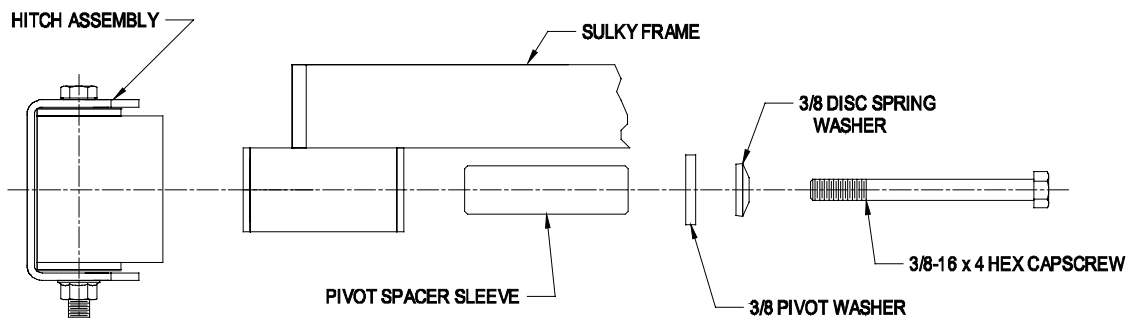

Figure 2
4. Install the front hitch assembly. Insert the pivot spacer sleeve into the front pivot housing of the sulky frame. Fasten the hitch assembly to the sulky frame with one 3/8-16 x 4" hex capscrew, one 3/8" pivot washer, and one 3/8" disc spring washer. Be sure the "cup" of the disc spring washer is against the pivot washer. Torque bolt to 30-35 ft/lbs. See Figure 2.